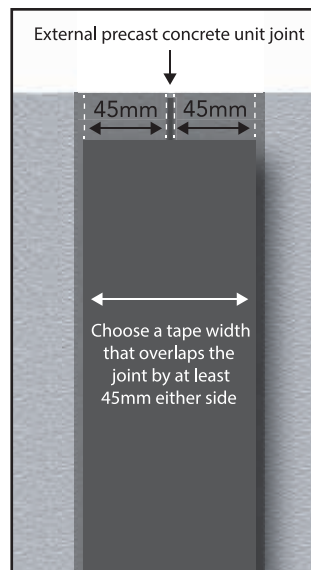

Fig 2.
2. Select the correct width of Premstrip External Joint Sealing Tape, making sure that it is wide enough to overlap at least 45mm either side of the joint. **See Fig 2.**